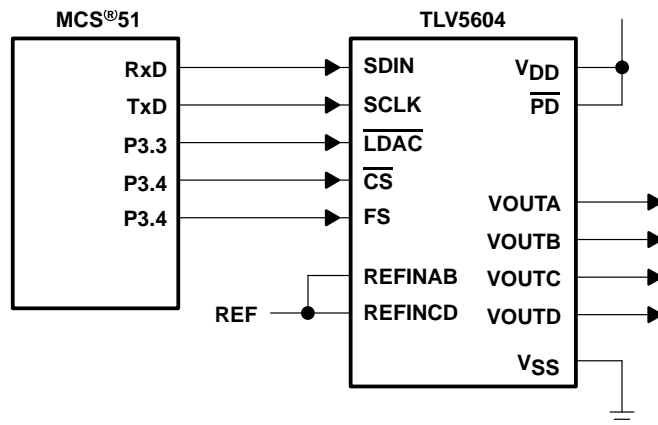

Figure 18. TLV5604 Interfaced with MCS[®]51
Figure 18 shows an example of how to connect the TLV5604 to an MCS[®]51 Microcontroller. The serial DAC input data and external control signals are sent via I/O Port 3 of the controller. The serial data is sent on the RxD line, with the serial clock output on the TxD line. Port 3 bits 3, 4, and 5 are configured as outputs to provide the DAC latch update ($\overline{\text{LDAC}}$), chip select ($\overline{\text{CS}}$) and frame sync (FS) signals for the TLV5604. The active low power down pin ($\overline{\text{PD}}$) of the TLV5604 is pulled high to ensure that the DACs are enabled.